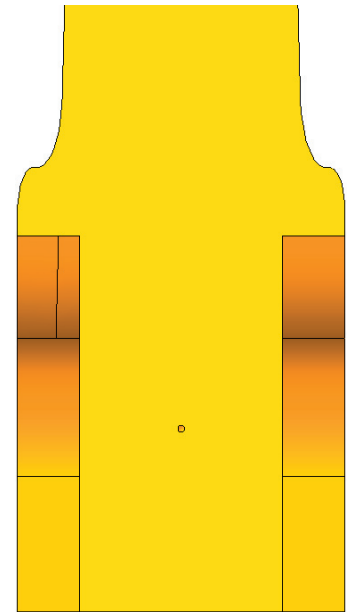

Fig. 42
Step 15. Click **Shaded With Edges**  on the View toolbar, **Fig. 42**.